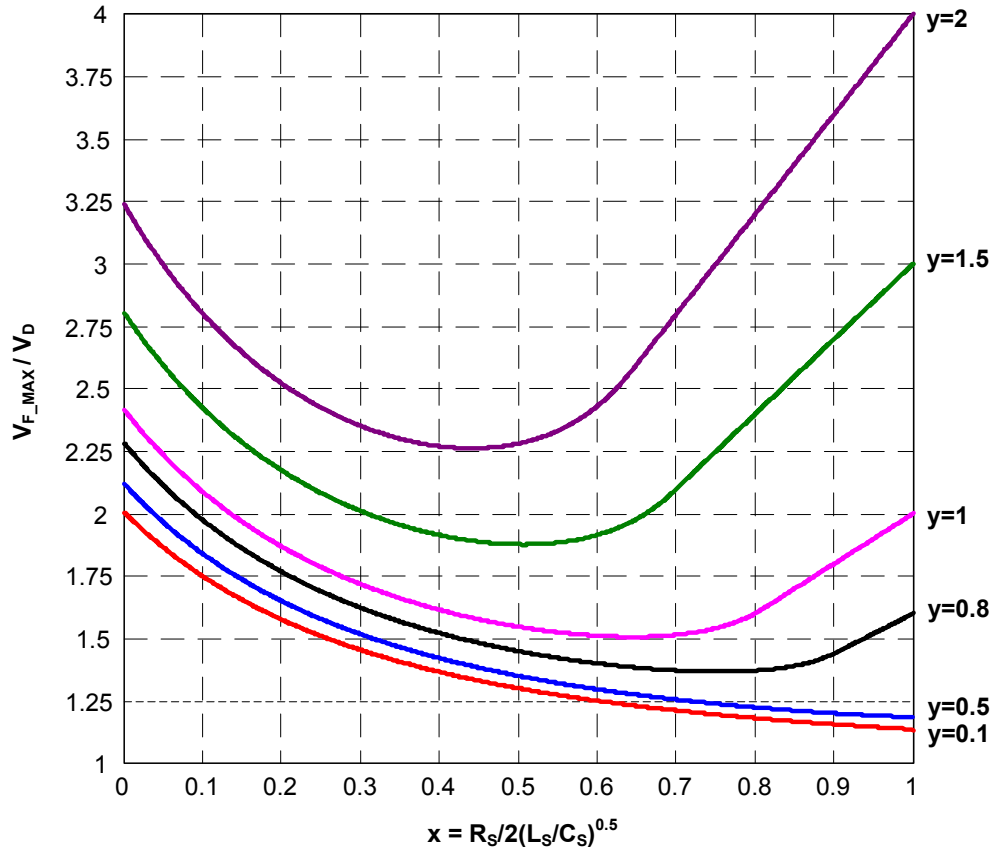

Figure 14 — R_S Value Effect on the SR FET Voltage Spike
Once C_S is selected, y in (12) becomes a constant which makes V_{F_MAX} a function of x . Figure 14 shows the drain-source peak voltage spike as function of x and y , from which we can see with different y value, x that implies R_S selection always has an optimized value which makes the drain-source peak voltage
With $y \approx 0.9$, we can get the optimized RC snubber design is to make x be ~ 0.7 according to figure 14:
- Select the SR FET with smaller Q_g , which help to reduce the $t_{D,off}$. Basically we can evaluate our desired $t_{D,off}$ based on figure 14 and equation (12):
For example, if we hope the maximum voltage spike V_{F_MAX} be less than 1.5 times of V_D , then known from figure 14, to get $V_{F_MAX}/V_D \leq 1.5$, we need to design $y \leq 1$: